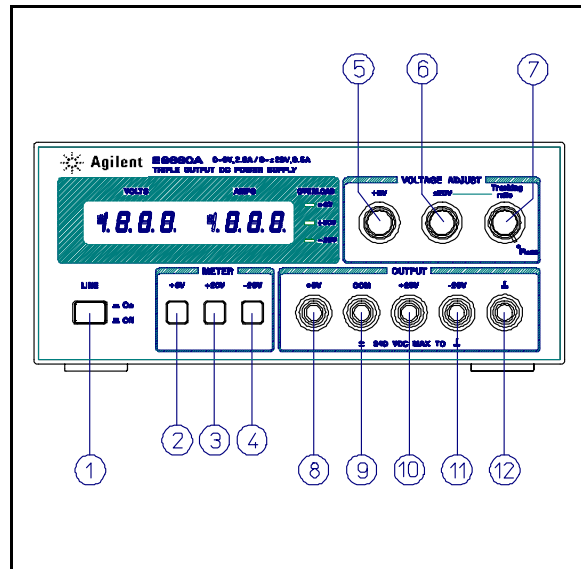

Figure 2. Front-Panel Controls and Indicators
The following steps describe the use of the front panel controls and indicators illustrated in Figure 2 and serve as a brief check that the supply is operational. Follow this checkout procedure or the more detailed performance test of service information section when the instrument is received and before it is connected to any load equipment.
This power supply can be operated individually or in parallel or series with another supply (see Parallel and Series Operation paragraphs). All output terminals are isolated from ground. The  $\pm 20V$  and +6V outputs use a single common output terminal. This common (COM) terminal or any one of the other output terminals may be grounded to the chassis at the front panel ground terminal (⑫ in Figure 2), or all outputs may be left floating. Loads can be connected separately between each of the 0 to  $\pm 20V$  output terminals and the COM terminal, or between the -20V and the +20V terminals for a 0 to 40V output. Each output voltage or current can be quickly selected for monitoring with the push-button meter switches. To moni-